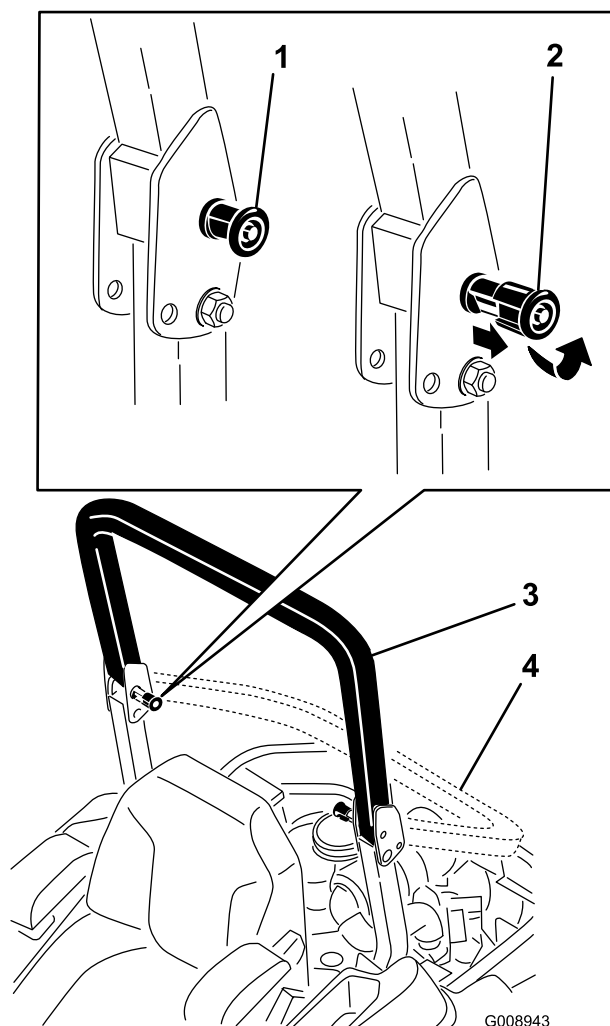

Figure 8
2. Pull both knobs out and rotate them 90° so they are not engaged (Figure 8).
3. Lower the roll bar to the down position (Figure 8).
4. To raise the roll bar, raise the roll bar to the operate position, rotate the knobs so that they move partially into the grooves (Figure 8).
5. Raise the roll bar to the full upright position while pushing on the upper roll bar and the pins will snap into position when the holes align with the pins (Figure 8).